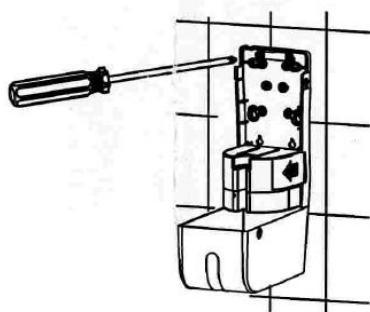

Fig.4
7. Tighten the screws. (Fig. 4)